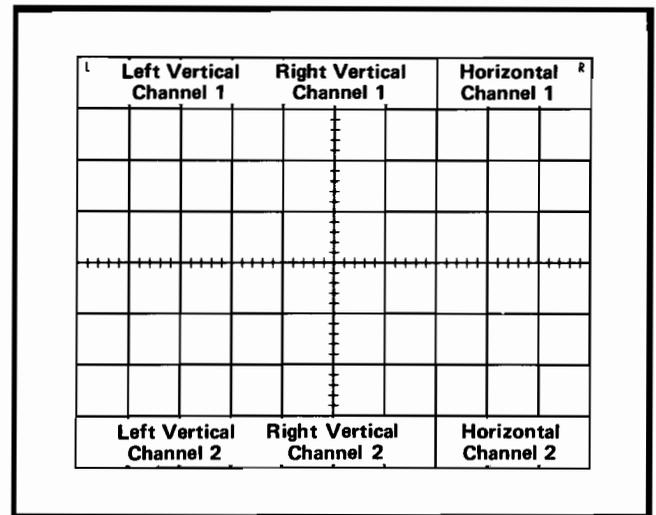
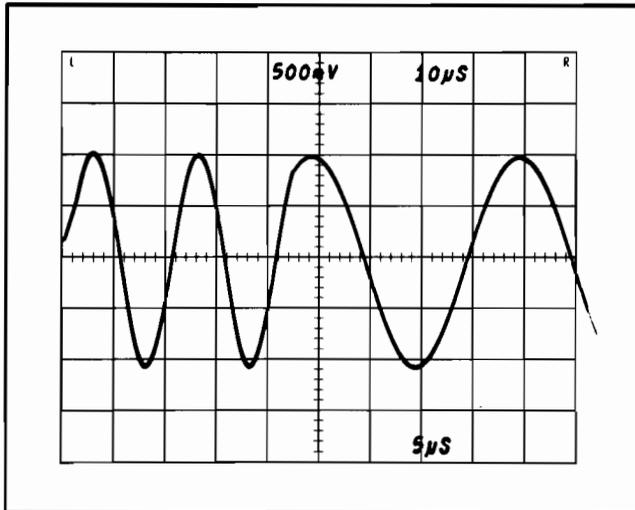

Fig. 3-30. Location of readout words on the CRT identifying the originating plug-in and channel (one complete frame shown, simulated readout).
Fig. 3-32. Typical readout display where channel 1 of the Right Vertical unit and both channels of the Horizontal unit are displayed.
Frame—A frame is a display of all words for a given operating mode and plug-in combination. Up to six words can be displayed in one frame. Fig. 3-30 shows one complete frame (simulated readout) and the position at which each of the six words is displayed.
Display Format. Up to six words of readout information can be displayed on the 7503 CRT. The position of each word is fixed and is directly related to the plug-in unit from which it originated. Fig. 3-30 shows the area of the graticule where the readout from each plug-in unit is displayed. Notice that channel 1 of each plug-in unit is displayed within the top division of the CRT and channel 2 is displayed directly below within the bottom division. Fig. 3-32 shows a typical display where only channel 1 of the Right Vertical and both channels of the Horizontal unit are selected for display.
The Format Generator stage provides the output signals to the vertical and horizontal deflection systems of the instrument to produce the character display. The binary Channel Address Code from the Channel Counter stage is connected to this stage so that the display from each channel is positioned to the area of the CRT which is associated with the plug-in and channel originating the word (see Fig. 3-30). The positioning current or decimal point location current generated by the Decimal Point Logic and Character Position Counter stage is added to the horizontal (X) signal at the input to the Format Generator stage to provide horizontal positioning of the characters within each word. The X- and Y-output signals are connected to the Horizontal Amplifier and Vertical Amplifier through the Horizontal Output and Vertical Output Stages respectively.